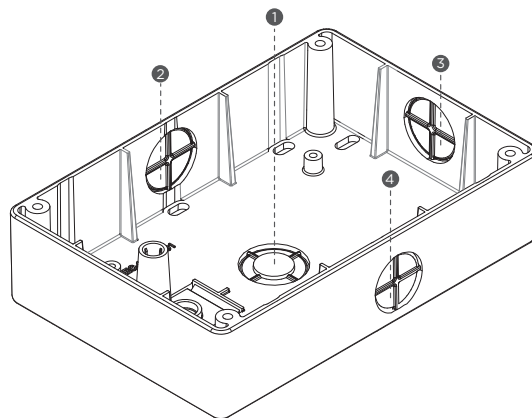

Figure 1: Conduit Knockout Locations
1. If necessary, remove conduit knockouts. For knockout locations, refer to Figure 1.